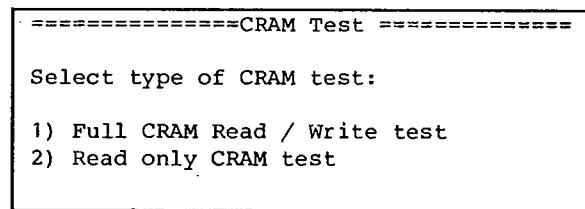

Fig. 5-10
1. Select "4) BATTERY CRAM TEST" by pressing the DATA ENTRY key. The screen as shown in the fig. 5-10 will appear on the LC-display.